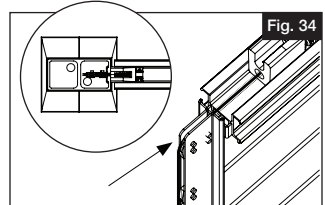

Fig. 34
- b. Make sure the cable is rounding the last turn of the guide by looking down the post (Fig. 34). Pull all slack through the tensioner. Also ensure the tension spring stays in place in the beam at the post before pulling tight.